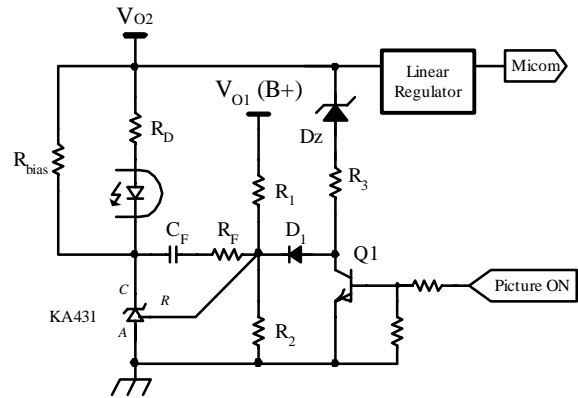

Figure 15. Typical feedback circuit to drop output voltage in standby mode
6. Burst operation : In order to minimize the power consumption in the standby mode, FSCQ1565RT employs burst operation. Once FSCQ1565RT enters into burt mode, FSCQ1565RT allows all output voltages and effective switching frequency to be reduced. Figure 15 shows the typical feedback circuit for C-TV applications. In normal operation, the picture on signal is applied and the transistor Q1 is turned on, which de-couples R3, Dz and D1 from the feedback network. Therefore, only Vo1 is regulated by R1 and R2 as